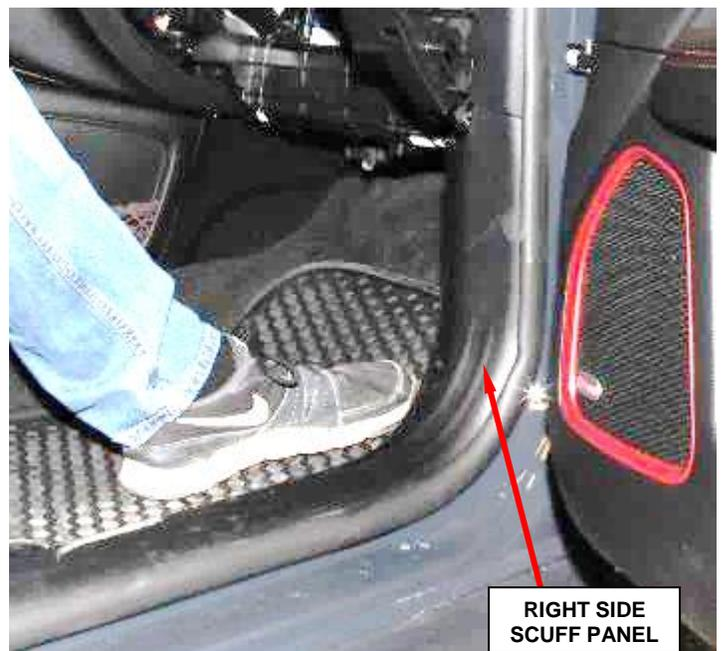

Figure 3 – Scuff Panel
5. Lift the right side scuff panel at the rear, then pull rearward and remove (Figure 3).
47. Lift the left-side cowl side trim at the rear, then pull rearward and remove. Refer to Figure 3.